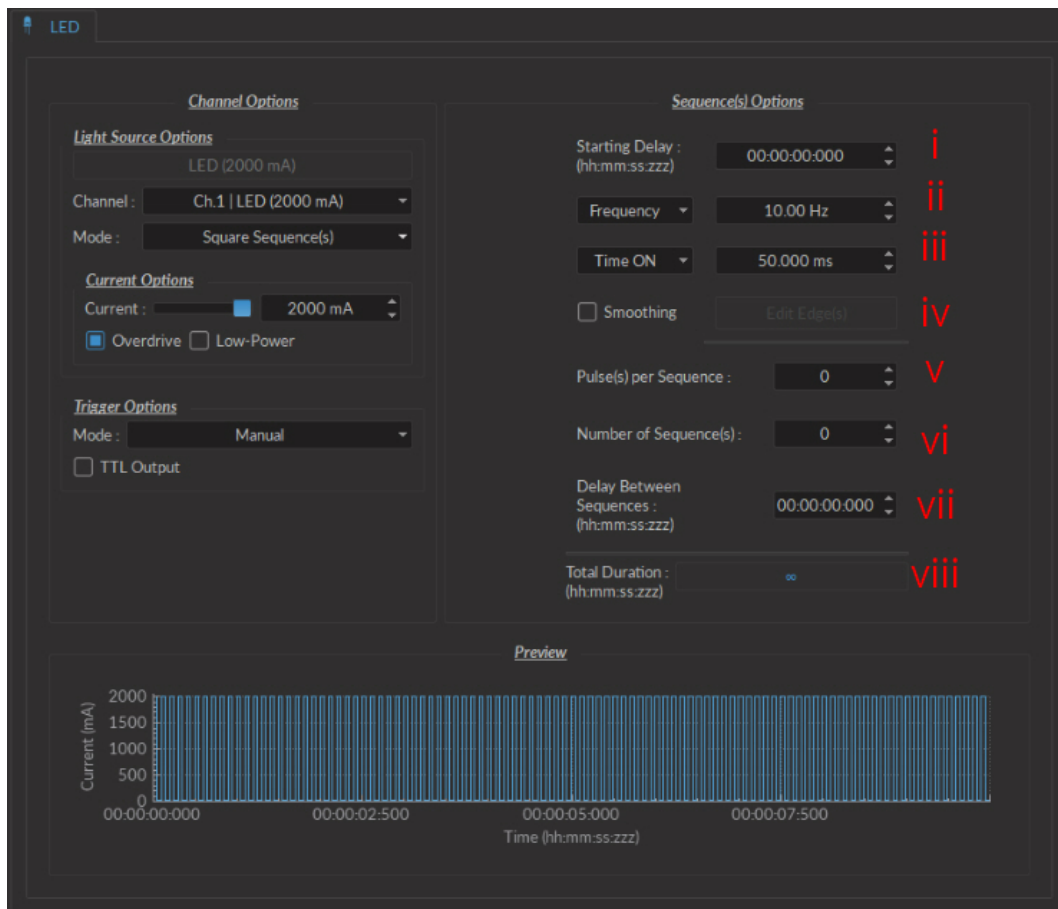

Figure 3.6: Light Source Channel Configuration Window, square sequence options
- i. The **Starting Delay** (Fig. 3.6) sets the delay (in hh:mm:ss:zzz format) before the first pulse.
- ii. The **Frequency/Period** (Fig. 3.6) sets the frequency (in Hz) or period (in ms) for the pulse sequence. For example, a signal at 10 Hz (frequency) will output one pulse every 100 ms (period), whereas a pulse sequence at 0.5 Hz (frequency) will output one pulse every 2000 ms (period).
- iii. The **Time ON/Duty Cycle** (Fig. 3.6) sets the time (in ms) or the duty cycle (in %) for each pulse. The **Time ON** must be lower than $(1/\text{frequency}) + 0.005$ ms, while the **Duty cycle** must be below 100 %. These squares will appear red should an impossible **Frequency/time ON** be selected. Should the **Smoothing** option be selected, this feature becomes inaccessible.
- v. The **Pulses per sequence** (Fig. 3.6) sets the number of pulses per sequence. If it is set to 0, the pulse will be repeated indefinitely.
- vi. The **Number of sequences** (Fig. 3.6) sets the number of times that the sequence will be repeated. If it is set to 0, the sequence will be repeated indefinitely.
- vii. The **Delay between sequences** (Fig. 3.6) sets the delay (in hh:mm:ss:zzz format) between each sequence if the **Number of Sequences** is greater than 1.
- viii. The **Total Duration** (Fig. 3.6) displays the total time of the experiment. The different values can be *Inf* for infinite, a valid time value or *Err* if the **Time ON** value is greater than 1/frequency.